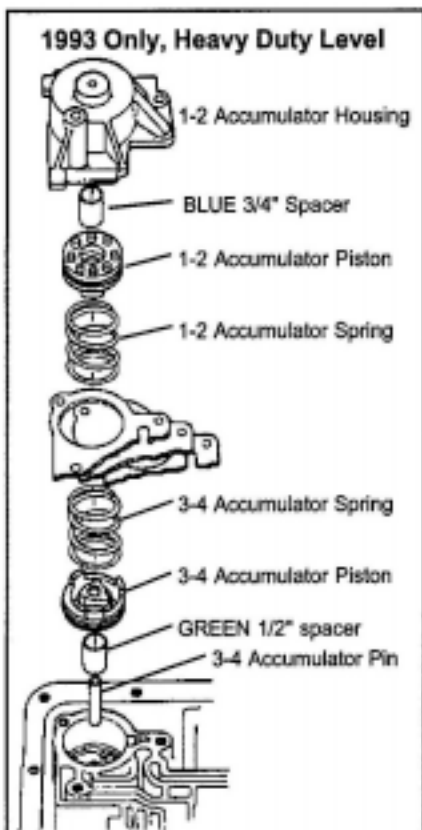

Figure 7. 1993 Accumulators Heavy Duty Level Modifications
STEP 12. Heavy Duty Level Only; (See Figures 7 or 9) Place the 3-4 Accumulator Pin in the case. Over the pin place the Spacer, 3-4 Accumulator Piston and Stock Spring (spring is installed at step 14). Remove the spring and piston from the 1-2 Accumulator Housing. Over the pin install the spacer, piston (notice